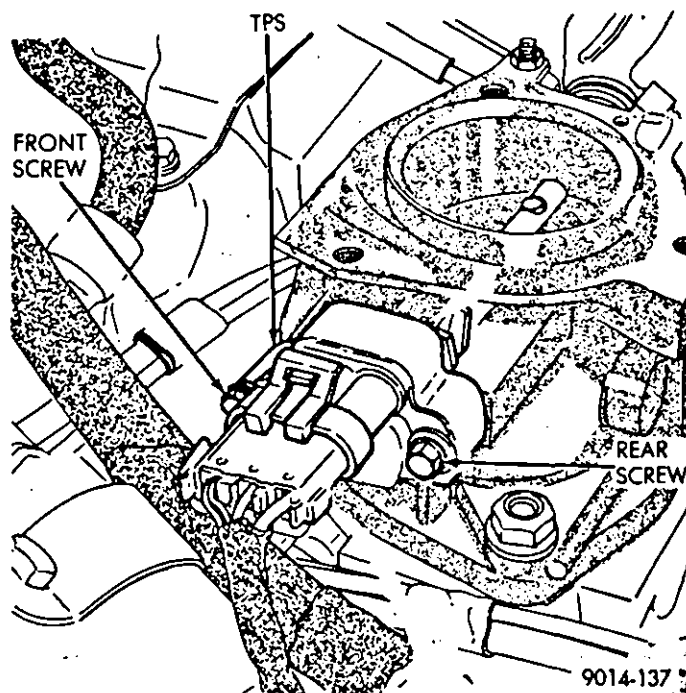

Fig. 4—Throttle Position Sensor Removal/Installation
The Throttle Position Sensor (TPS) is attached to the throttle body (Fig. 4).
- (1) Disconnect electrical connector (Fig. 4).
- (2) Remove TPS mounting screws (Fig. 4).
- (3) Remove the wire harness mounting bracket screws.
- (4) Remove TPS (Fig. 4).
- (1) Install TPS wire harness mounting bracket screws.
- (2) Install TPS (Fig. 4).
- (3) Connect electrical connector.
- (4) Adjust TPS. Refer to TPS adjustment in the MPI Service Adjustments section of this group.
- (5) Tighten TPS mounting screws (Fig. 4).